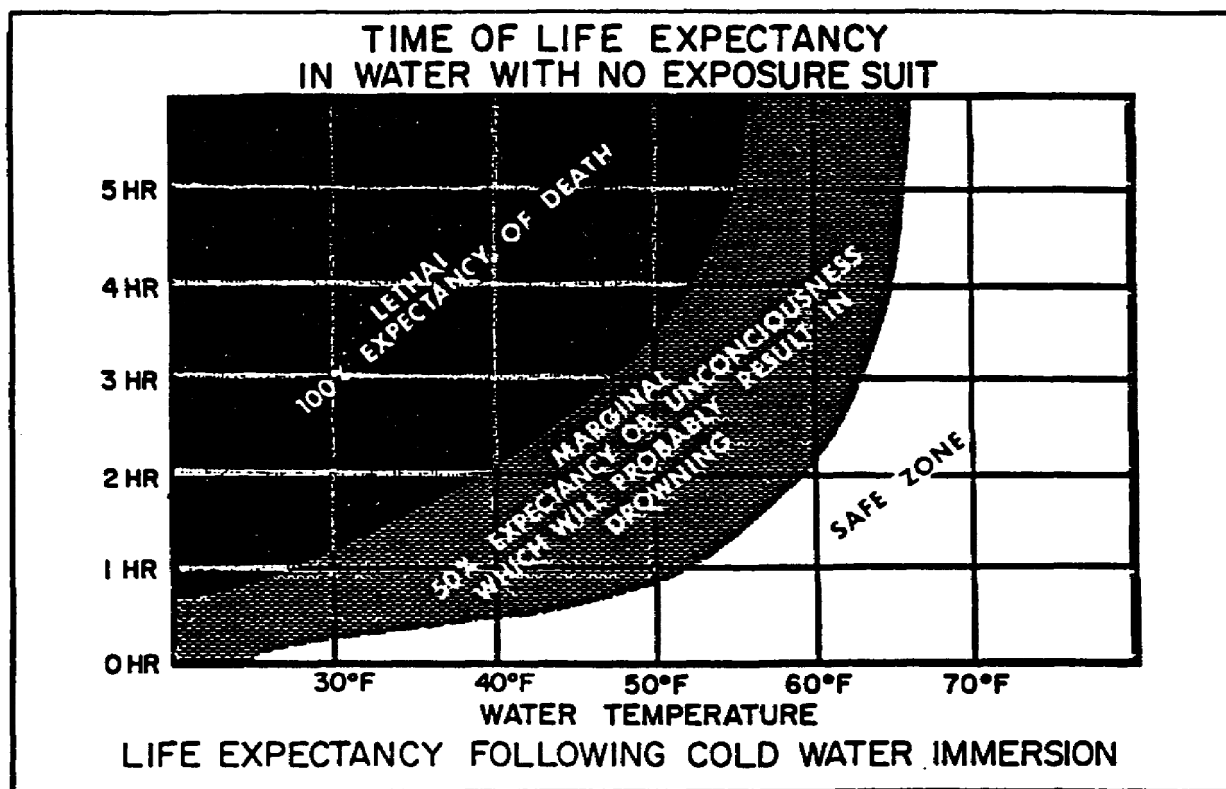

Figure 8. Life expectancy following cold-water immersion.
(1) Assemblies. The antiexposure assemblies, quick donning and constant wear, are designed for personnel participating in overwater flights where unprotected or prolonged exposure to cold air, water (as a result of ditching or abandoning an aircraft), or both would be dangerous or could prove fatal. The suit protects from the wind and insulates against the chill of the ocean. The result of exposure in the water is illustrated in Figures 8 and 9. Exposure time varies depending on the particular antiexposure assembly worn, the cold sensitiveness of the person, and survival procedures used.